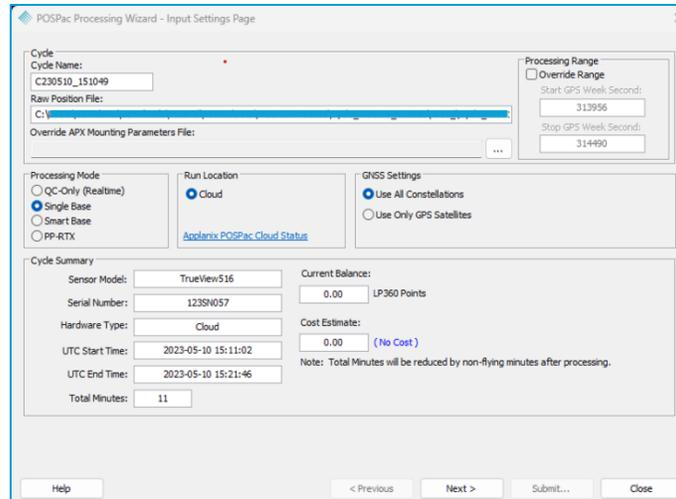

Figure 51 – Input Settings Page
3. The **POSPac Processing Wizard** dialog (Figure 51) should now be opened to the first page, which is where the user will select the file to be processed, and how it will be processed. The first time you open this page for a Cycle it may take a moment as LP360 Drone analyses the raw position file. The bullets below explain the settings for the **POSPac Processing Wizard** dialog (Figure 51).